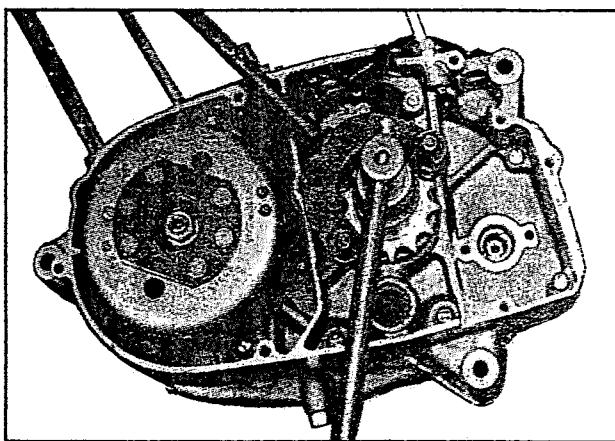

Fig 3.32
- Loosen engine sprocket nut by using the special tool (fig 3.32)